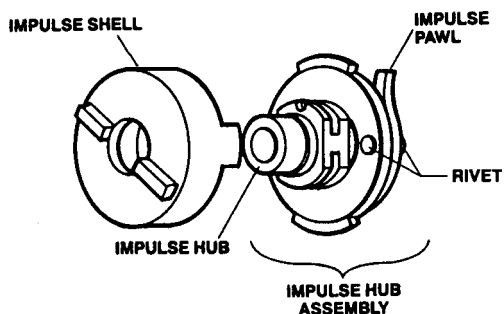

Figure 8.3
- A. Clean Impulse Coupling (5)
- B. Inspect Impulse Coupling (5) (See Figure 8.3.)